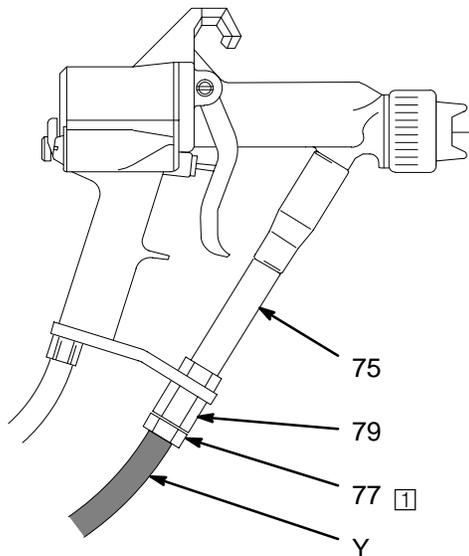

Fig. 5
2. Inspect the condition of the o-rings (G) on the hose barbed-fitting. Replace the o-rings if they are worn or damaged.
3. Unscrew the hose ferrule housing (79) from the gun fluid inlet fitting, and slide the nut onto the barbed-end of the hose. Refer to Fig. 5.
5. Insert the hose (Y) into the hose ferrule housing (79). See Fig. 5.
6. Push the hose firmly through the fluid inlet tube (75) until the o-rings on the hose barbed fitting are seated and the hose bottoms out.
7. Tighten the hose ferrule (77) firmly with a wrench to about 50 in-lb (5.6 N•m). Pull back on the hose to make sure it is secure. If not, disconnect the hose and inspect it for damage. Check the hose connection periodically for signs that the hose is loosening.
#### KEY- Fig. 5